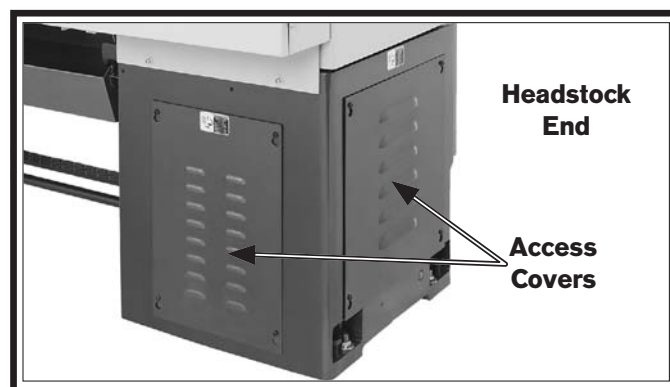

Figure 120. Locations of motor access covers.
2. Remove the motor access covers shown in **Figure 120**.